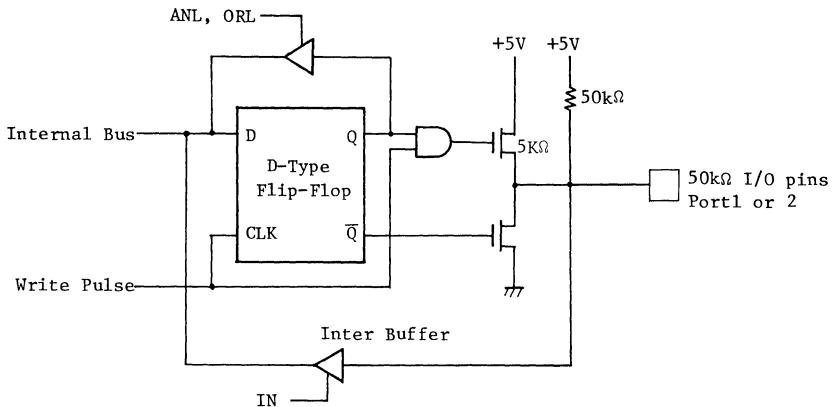

Fig.1 Input/Output Circuit of Port 1, Port 2
(3) Input/Output Ports
- All lines of Ports 1 and 2 are called quasi-bidirectional because of a special output circuit structure (illustrated in Figure 1). Each line is continuously pulled to a +5V level through a high impedance resistive device ($50K\Omega$) which is sufficient to provide the source current for a TTL high level yet can be pulled low by a standard TTL gate thus allowing the same pin to be used for both input and output. In order to speed up the "0" to "1" transition a low impedance device ($5K\Omega$) is switched in momentarily whenever a "1" is written to line. When a "0" is written to line a low impedance device overcomes the pullup and provides TTL current sinking capability.